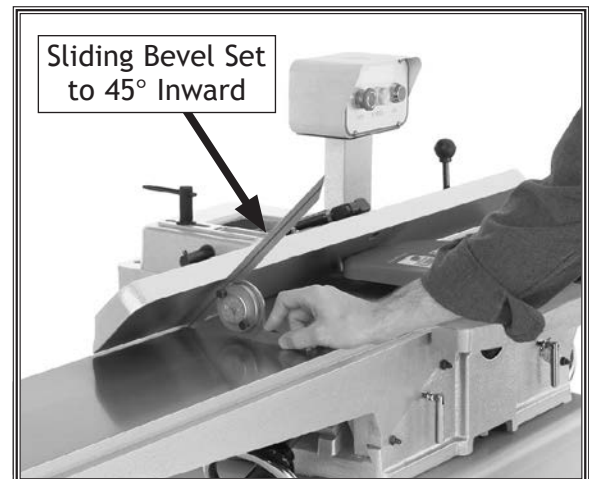

Figure 57. Example of adjusting fence to 45° inward.
3. Place sliding bevel set to 45° against fence and table, as shown in **Figure 57**.